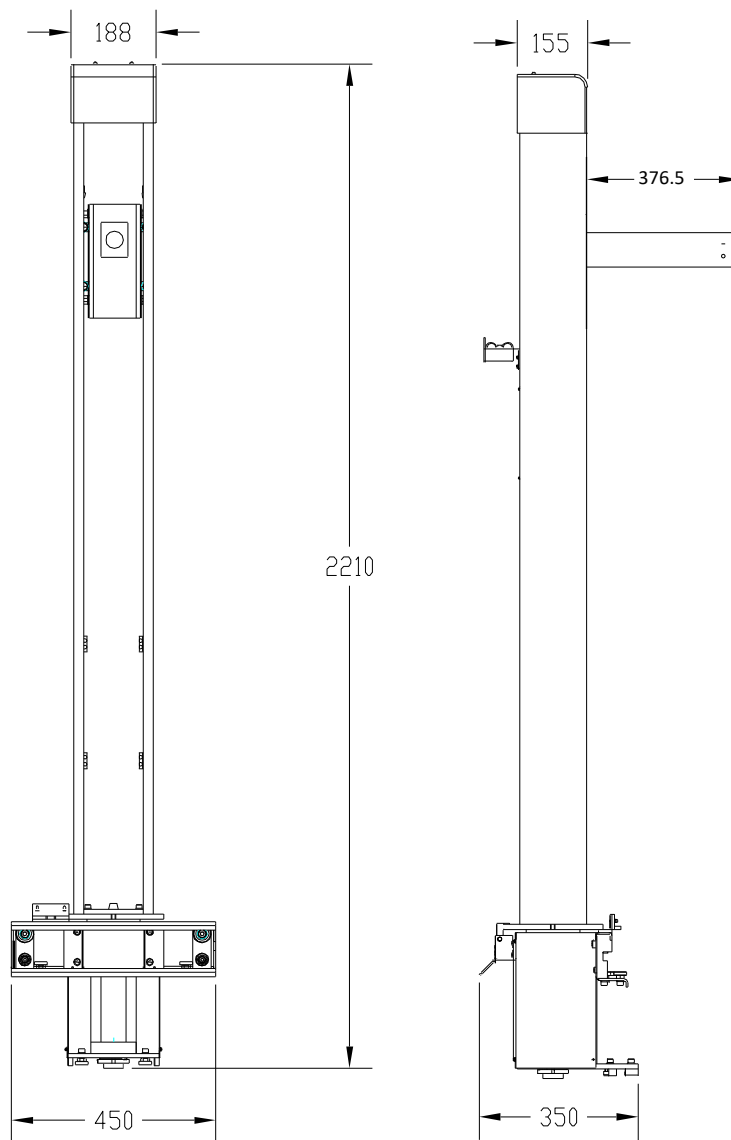

Figure 5-14 Tube Stand (Standard)
- Integrated Tube Stand - Figure 5-13 through Figure 5-14.